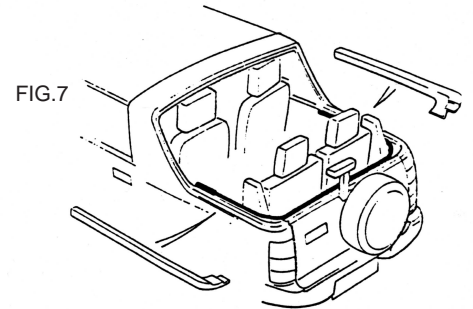

FIG.7
- Op.10 Re-fit the two rear plastic mouldings removed in Op.3. Place the mouldings in position and drill a 3mm hole through the hole in the top front edge of the moulding, and through the top lip of the body. *Great care must be taken not to drill too deep and damage the body.* Remove the moulding and paint the hole with zinc or aluminum based primer. Re-fit moulding and replace screws and 3mm pop rivets. FIG.7.